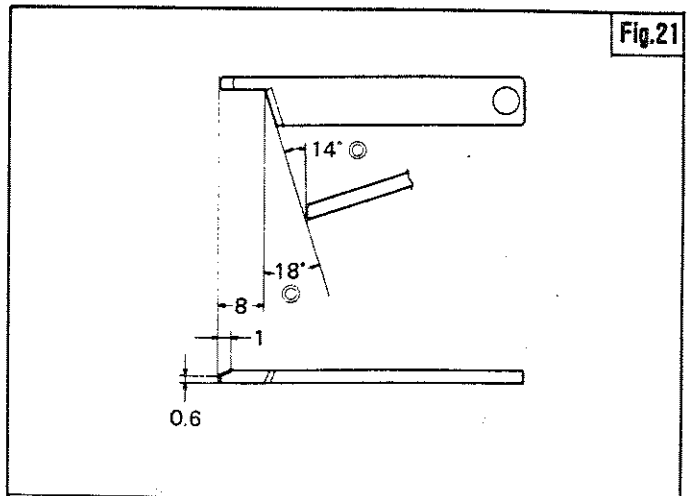

Fig.21
## SHARPENING KNIVES (Figs. 21 and 22)
- (1) Refer to Fig.21 for Upper Knife.